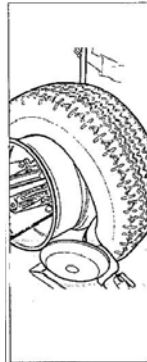

Fig.7.7
- I. Turn the hook tool 180° and insert it between rim and bead (see Fig.7.7). Move it until the bead is by the edge of the rim (best to do this with the wheel turning).